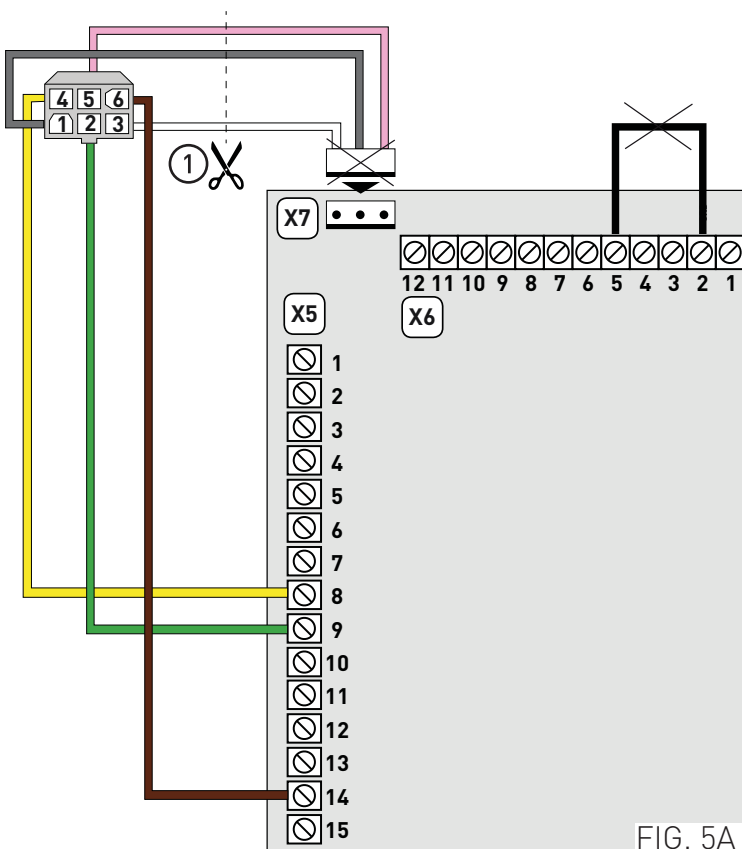

FIG. 5A
- ① remove the 3pins white terminal from the cable (Fig. 5A);